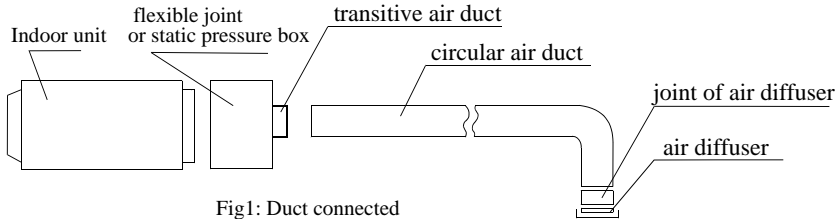

Fig1: Duct connected
- An additional transitive air duct is necessary for the circular air duct to connect to the air supply inlet. It should be also connected to its respective air diffuser separately. See Fig.1. Adjust the wind speed of each air diffuser outlet to keep in line on the whole, so as to meet a demand of the air conditioner in the room.